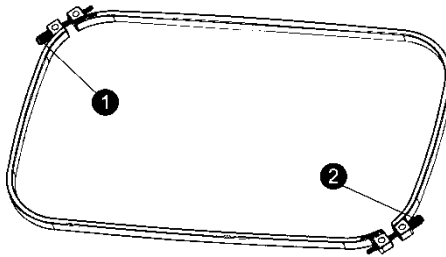

Figure 82
2. Loosen the two (2) screws on the flat frame support. See Figure 82.